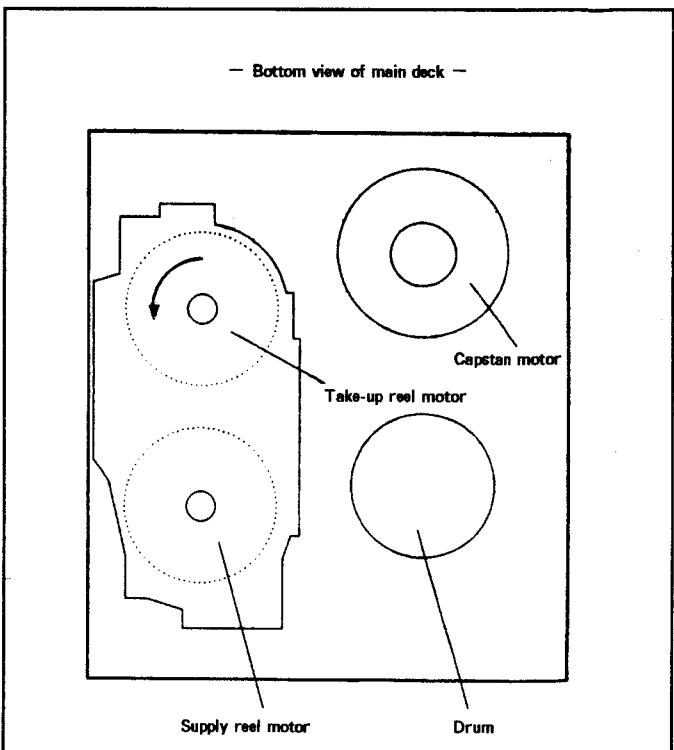

Fig. 2-1-2 Manual takeoff of cassette tape -
- (4) Turn the take-up reel motor in the direction of the arrow to pull in the slack of the tape. (Fig. 2-1-2)